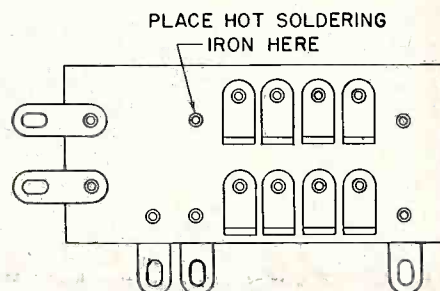

Fig. 2. Front view of tuner terminal board.
2. Place a hot soldering iron at the point shown in Fig. 2.